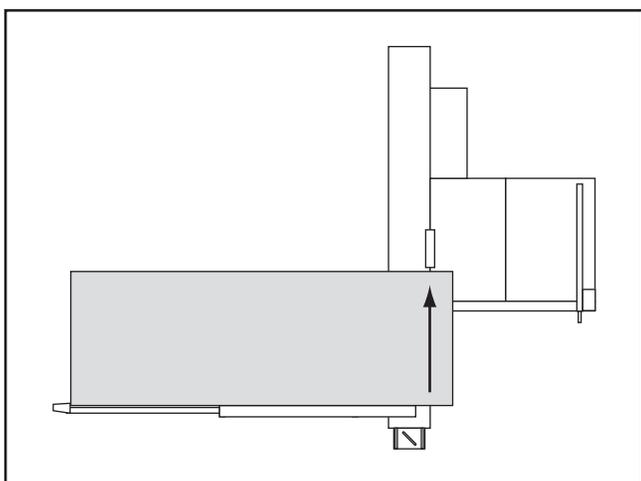
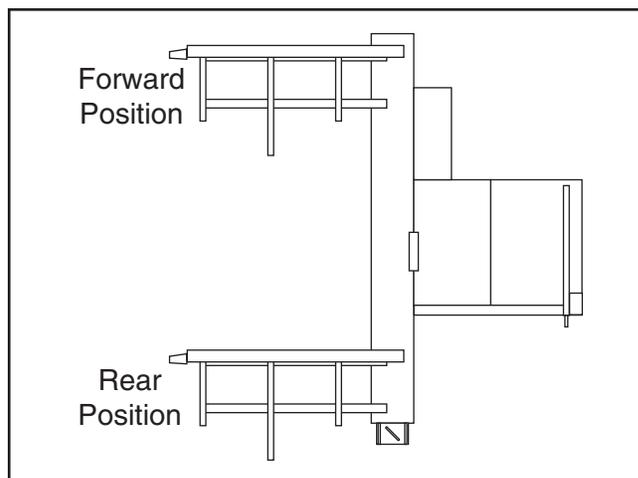

Figure 104. Crosscut fence mounted in the rear position for smaller panels.
Figure 106. Forward and rear crosscut fence mounting positions.
Mounting the crosscut fence in the rear position provides greater stability for crosscutting smaller panels, as shown in **Figure 104**.
3. Loosen the crosscut fence pivot stud under the crosscut fence, install the fence in the forward position, as indicated in **Figure 106**, then rotate the fence against the 90° stop bolt.
Follow the same steps in the **Crosscutting Full Size Panels** subsection on **Page 56**, but mount the crosscut fence in the rear position, as indicated in **Figure 106** on the previous page. Then, load the workpiece so your setup looks similar to **Figure 104** on the previous page.
- Follow the same steps in the **Crosscutting Full Size Panels** subsection on **Page 56**, but mount the crosscut fence in the rear position, as indicated in **Figure 106** on the previous page.